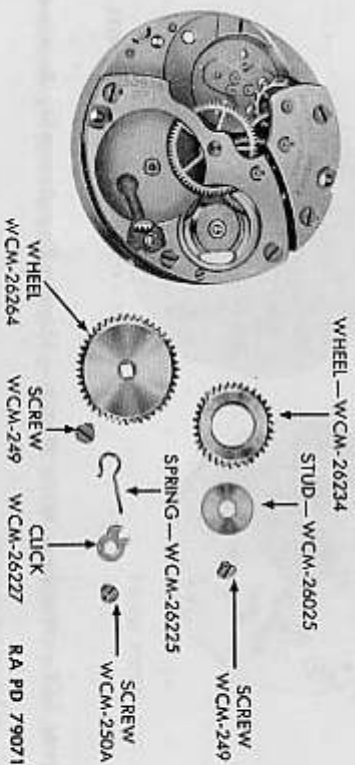

Figure 161 — Waltham Wrist Watch — Winding Wheel and Click Assembly Removed
l. Remove Winding Wheels and Click Assembly (fig. 161). Remove crown wheel screw. Remove crown wheel stud and crown wheel. Remove winding wheel screw and winding wheel. Remove click screw, click, and click spring.
e. Replacing Winding Wheels and Click (fig. 161). Replace click spring and click, and secure in place with click screw. Replace